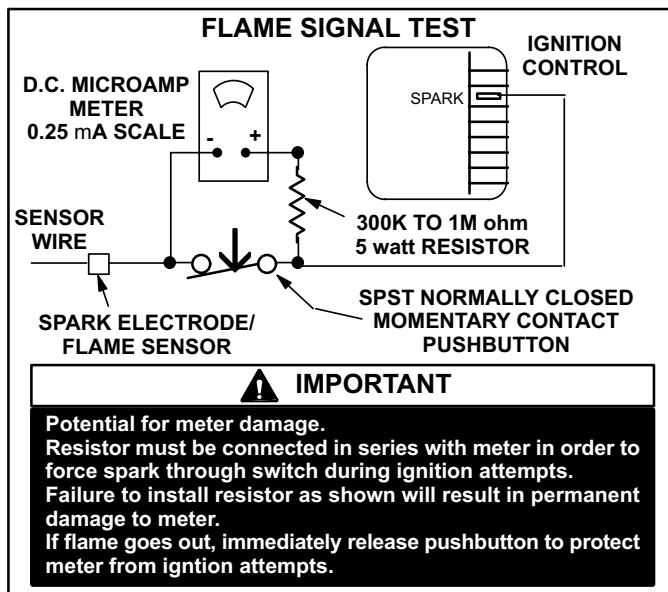

FIGURE 10
- 2 - Connect meter, switch and resistor in circuit as shown in figure 10. Set meter to 0.25 mA scale.